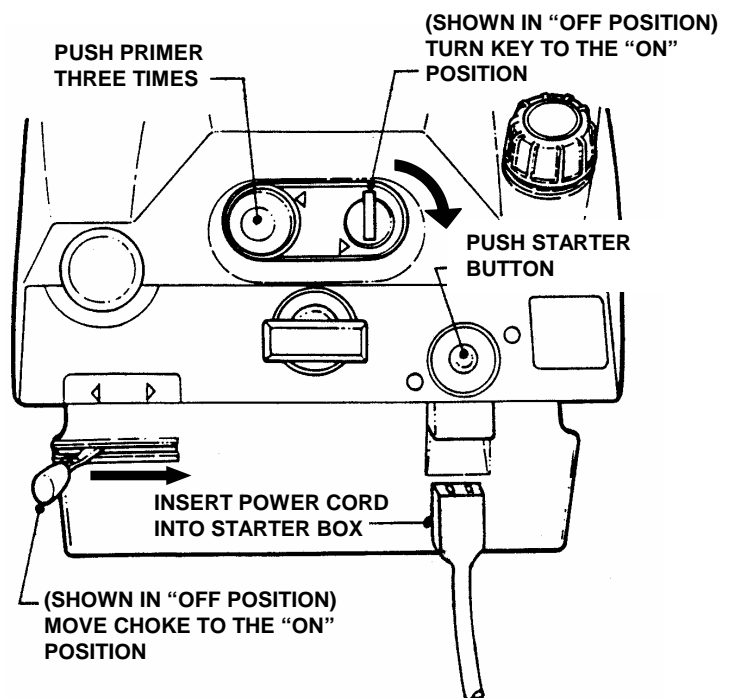

FIGURE 2.8
3. Move choke control to the choke "ON" position. See Figure 2.8.
5. Push the electric starter button. DO NOT hold button for more than 20 seconds to avoid damaging the starting motor. See Figure 2.8.